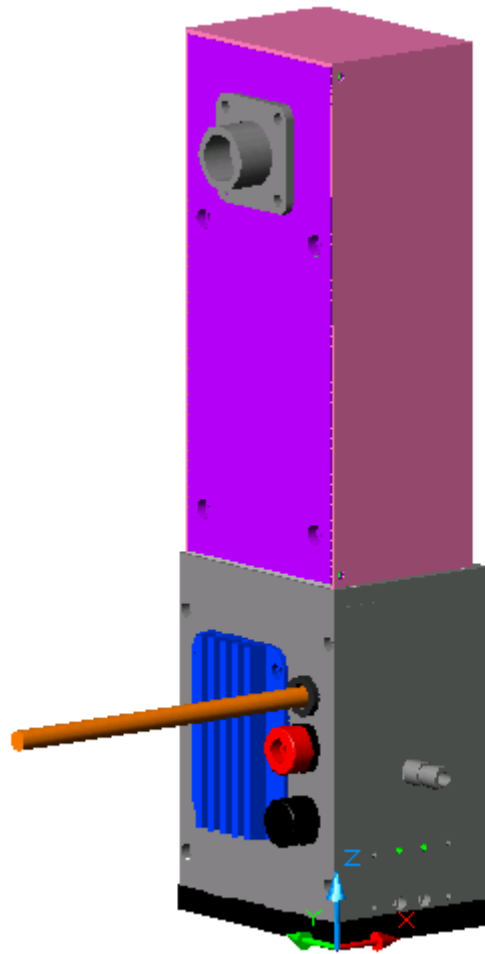

Figure 44. I. A. cover attached to I. A. bracket.
**STEP 24:** Slide the I. A. Cover (drawing #21) over the I. A. bracket and attach it with four ¼" screws (see figure 44).